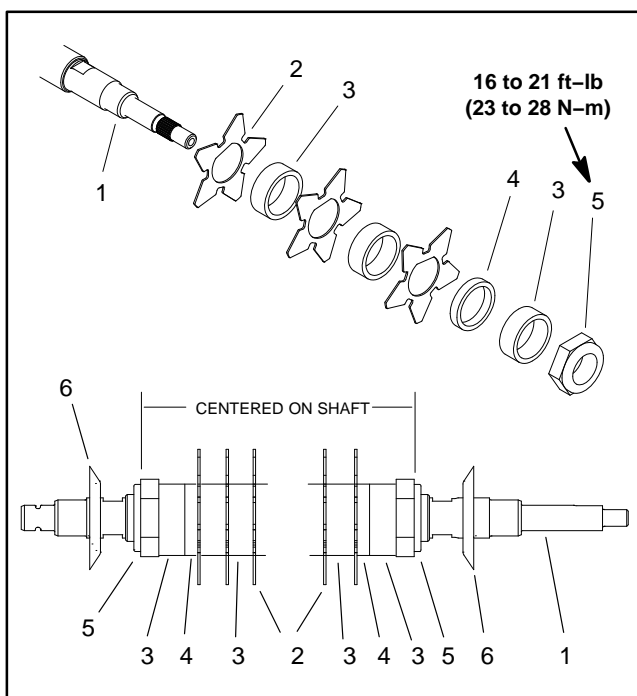

Figure 10
Disassembly (Fig. 10)
5. Remove lock nut from either end of the shaft (Fig. 10).
Assembly (Fig. 10)